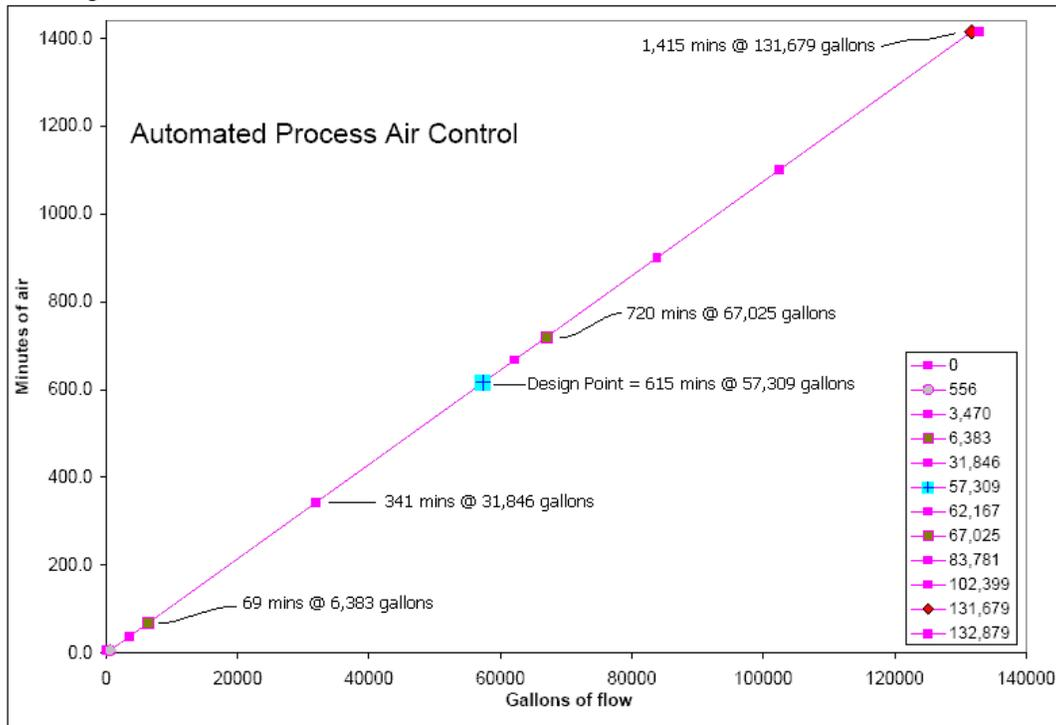

Figure 1. Minutes of process air required per 24 hours per gallon of flow.
- 1 There are six (6) Process Cycles in a 24-hour period. The Fixed ON / Fixed OFF times (process air) is re-calculated every four (4) hours, at the start of a new Process Cycle.
- 3 The "Total Process Air" required in 24 hours for the given "Volume to Treat" is calculated using a linear equation, similar to that shown in Figure 1.